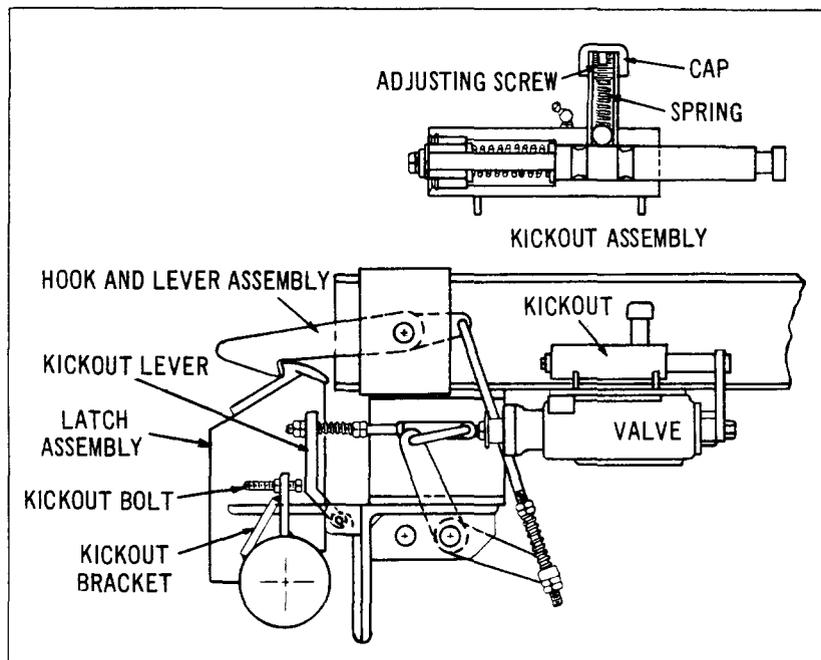

Fig. 5
(a) Changing from one method of control to the other is accomplished by either inserting or removing two detent springs in the "kick-out" units which are located above the control valve assembly. See Fig. 5.
11.04 To change to Full Automatic type of controls, remove cap and adjust adjusting screw. If control releases hard, loosen screw. See Fig. 5.